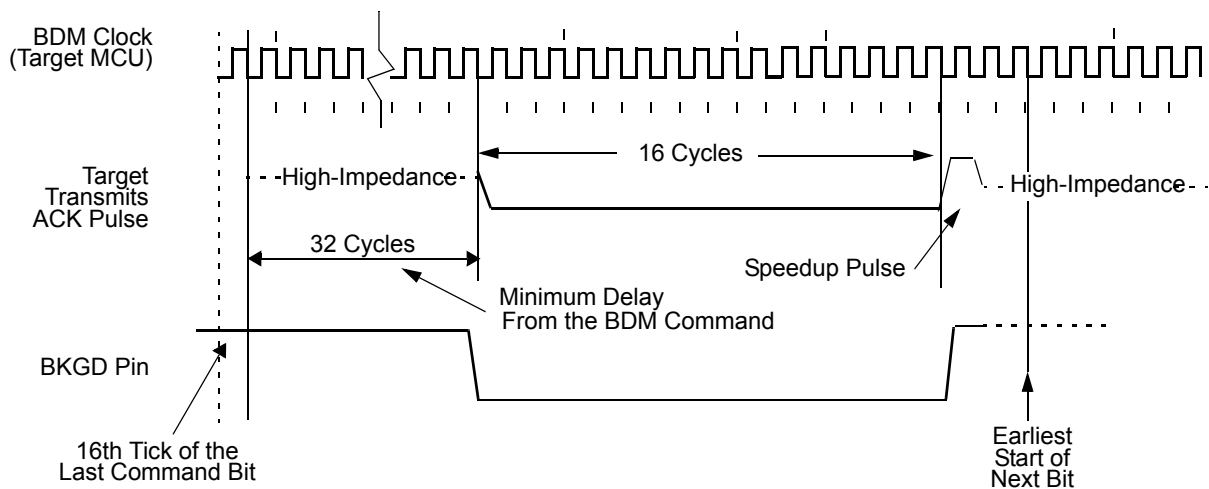

Figure 58. Target Acknowledge Pulse (ACK)
The hardware handshake protocol signals to the host controller when an issued command was successfully executed by the target. This protocol is implemented by a 16 serial clock cycle low pulse followed by a brief speedup pulse in the BKGD pin. This pulse is generated by the target MCU when a command, issued by the host, has been successfully executed (see Figure 58). This pulse is referred to as the ACK pulse. After the ACK pulse has finished: the host can start the bit retrieval if the last issued command was a read command, or start a new command if the last command was a write command or a control command (BACKGROUND, GO, GO\_UNTIL(182) or TRACE1). The ACK pulse is not issued earlier than 32 serial clock cycles after the BDM command was issued. The end of the BDM command is assumed to be the 16th tick of the last bit. This minimum delay assures enough time for the host to perceive the ACK pulse. Note also that, there is no upper limit for the delay between the command and the related ACK pulse, since the command execution depends upon the CPU bus, which in some cases could be very slow due to long accesses taking place. This protocol allows a great flexibility for the POD designers, since it does not rely on any accurate time measurement or short response time to any event in the serial communication.